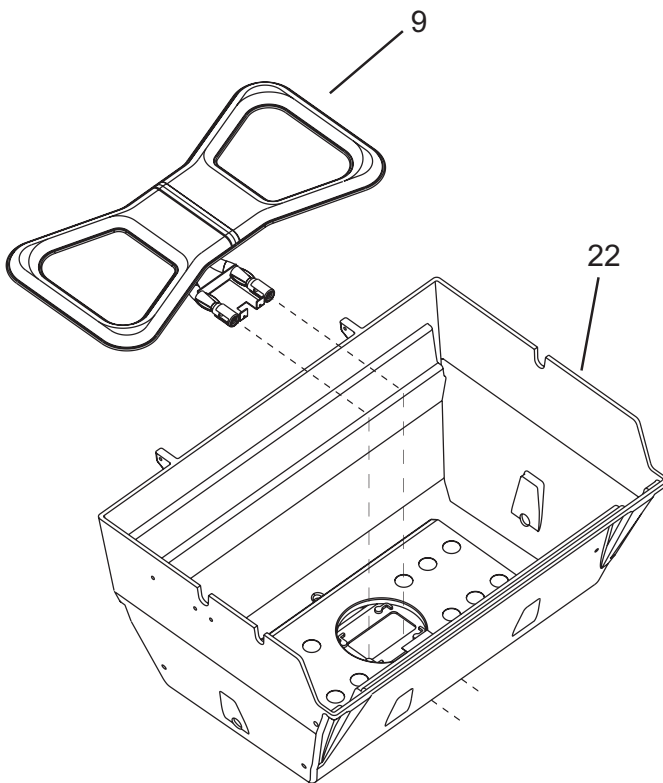

Figure 4
Insert the burner assembly (9) into the grill bottom (22) with the venturi tubes facing the front of the grill. Figure 4.